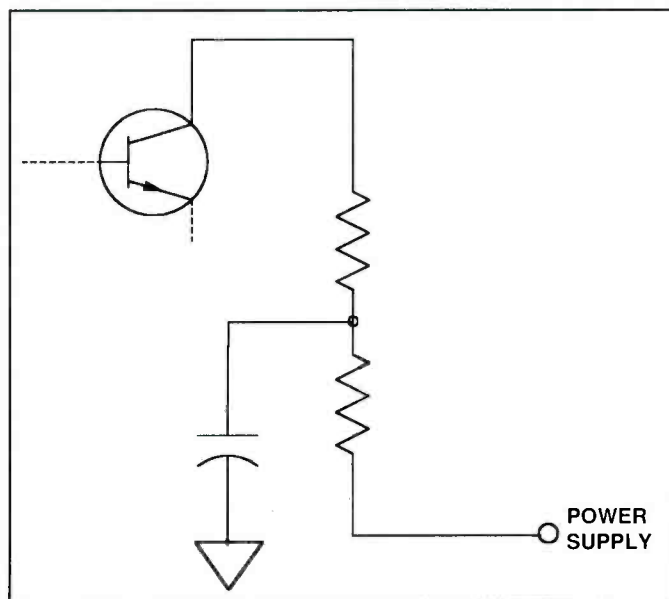

Figure 2. What is the function of the RC combination in this circuit? →
10. Refer to Figure 2. The circled RC combination is